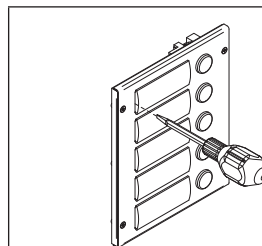

Fig. 3
- Insert the screwdriver (flat side) as shown in Fig. 3;